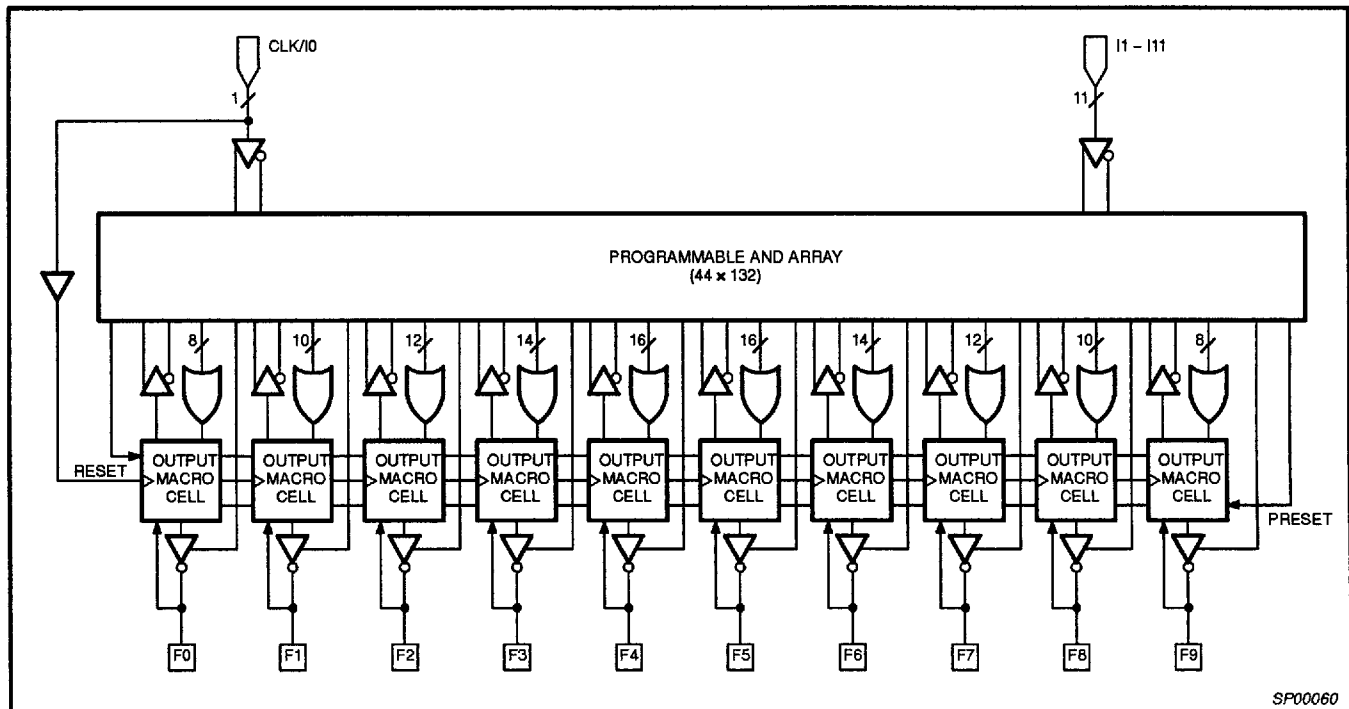
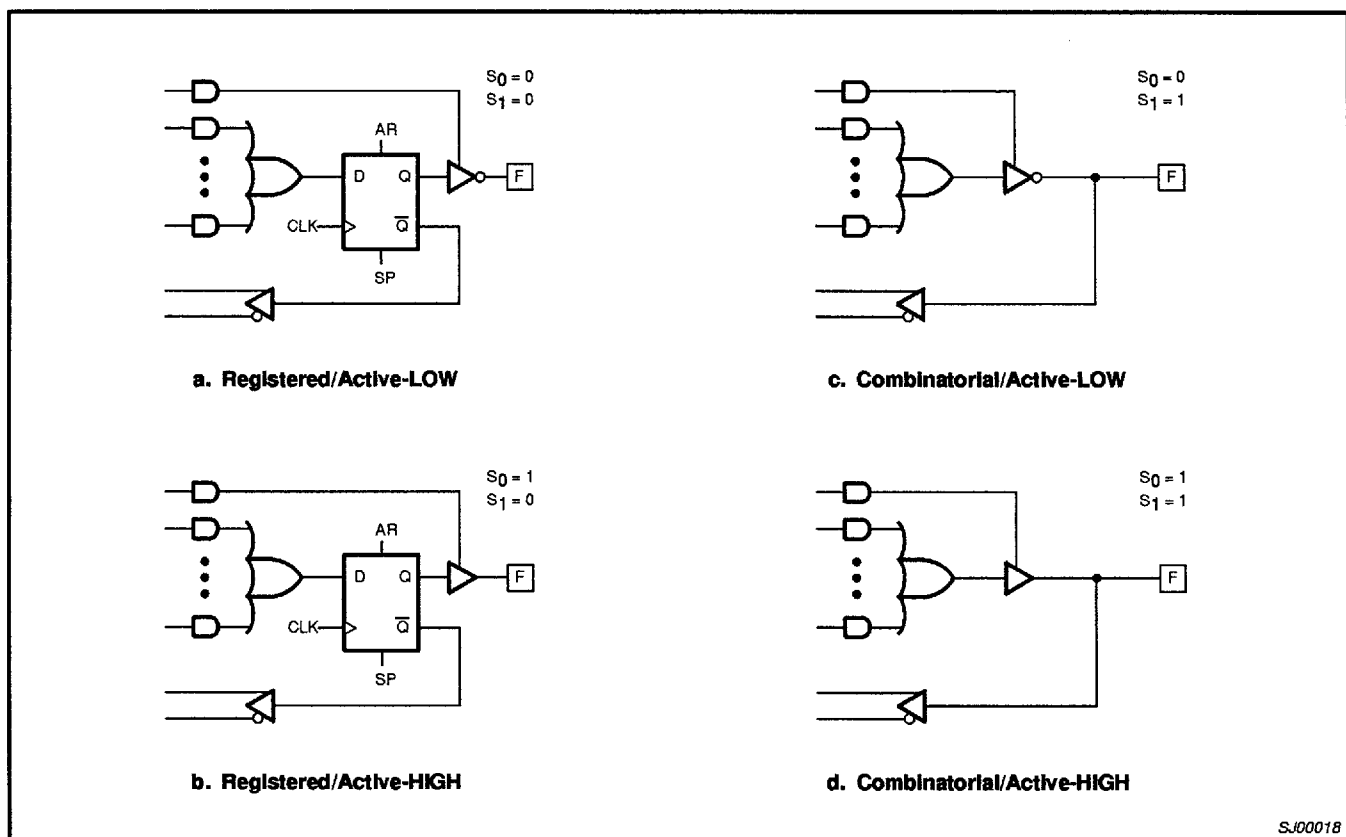

Figure 1. Functional Diagram
Figure 7. Output Macro Cell Configurations
The ABT22V10 has 12 inputs and 10 I/O Macro Cells (Figure 1). The Macro Cell allows one of four potential output configurations, registered output or combinatorial I/O, Active-HIGH or Active-LOW (see Figure 7). The configuration choice is made according to the user's design specification and corresponding programming of the configuration bits  $S_0 - S_1$ . Multiplexer controls are connected to ground (0) through a programmable fuse link, selecting the "0" path through the multiplexer. Programming the fuse disconnects the control line from GND and it floats to  $V_{CC}$  (1), selecting the "1" path.